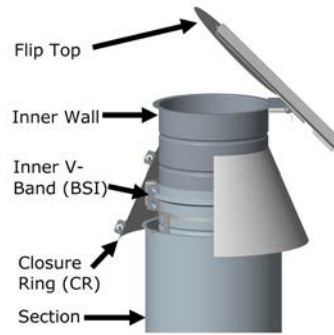

Figure 69 - Flip Top (FT) installed
the uppermost chimney pipe section with a inner V-Band (BSI) (See Step 1 to 4 in the JOINT ASSEMBLY Section). For Models CAX1, CIX1, CIX2 and CIX4, a Closure Ring (CR) is provided to protect the insulated space between standard pipe inner and outer. If a FT is installed on a horizontal termination, the hinged side of the top must be oriented at the top of the pipe keeping the counterweight up. The CR must be sealed to the inner wall with outer Sealant S-375. See Figure 69